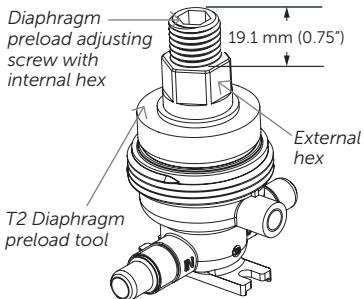

Figure 1.
11. Refer to Figure 1. Make sure the diaphragm preload tool adjusting screw is out 19.1 mm ($\frac{3}{4}$ ") before placing the diaphragm preload tool (T2) onto the retainer nut (P11).